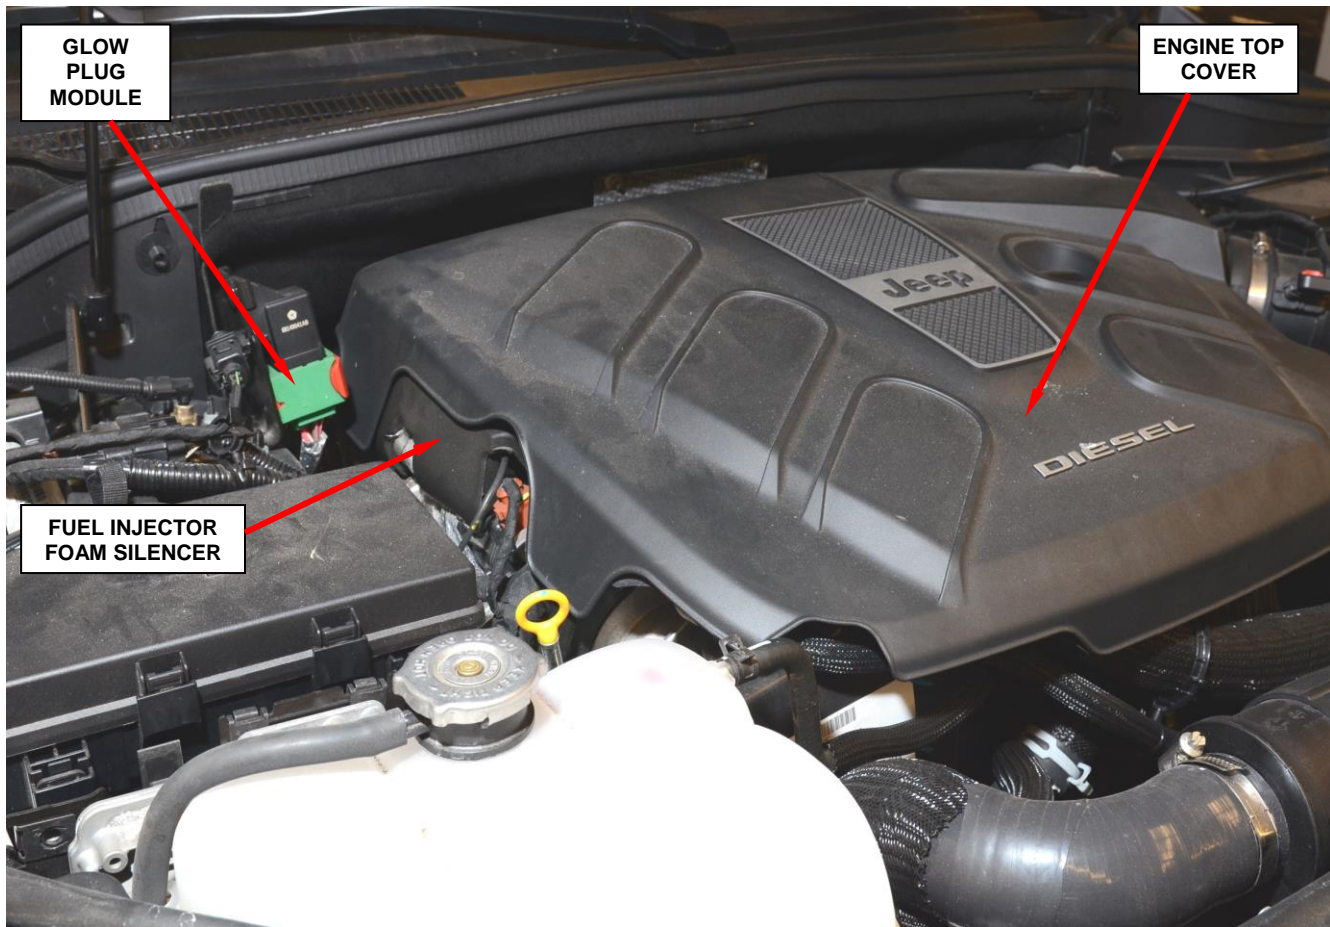

Figure 9 – Engine Top Cover
19. Remove and save the engine top cover (Figure 9).
20. Remove and save the fuel injector foam silencer from the right cylinder bank (Figure 9).
21. Remove and save the glow plug module retaining nuts (Figure 9).
22. Disconnect the glow plug module and relay wiring harness (Figure 9).
23. Place the glow plug module and relay wiring harness aside (Figure 9).